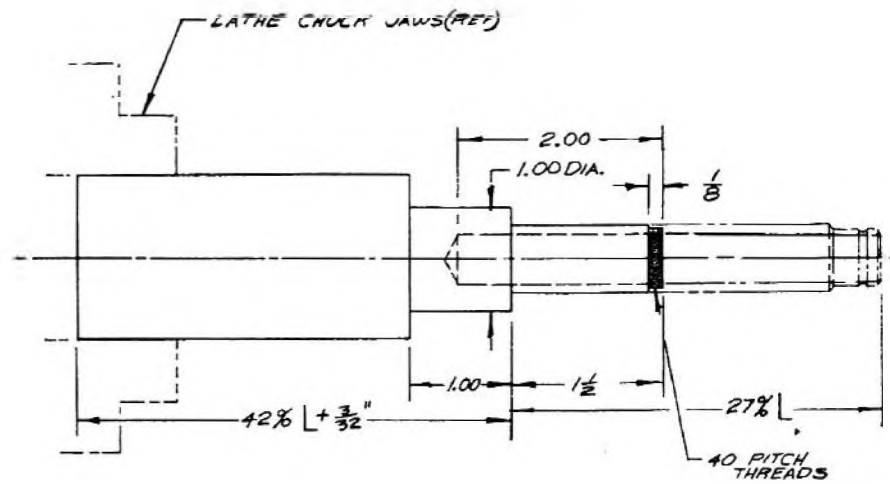

Figure 2.
1. Bore the inside diameter of the headpipe to about 2 inches deep. Turn the outside diameter of the headpipe $1\frac{1}{2}$ in. length. Thread the end of $\frac{1}{2}$ inch. We used a forty pitch thread on the headpipe so that extensions can be made for varying conditions. Then turn a 1 inch diameter \times 1 inch length. Face to $42\% L + \frac{3}{32}$ inch. (See Fig. 2.)